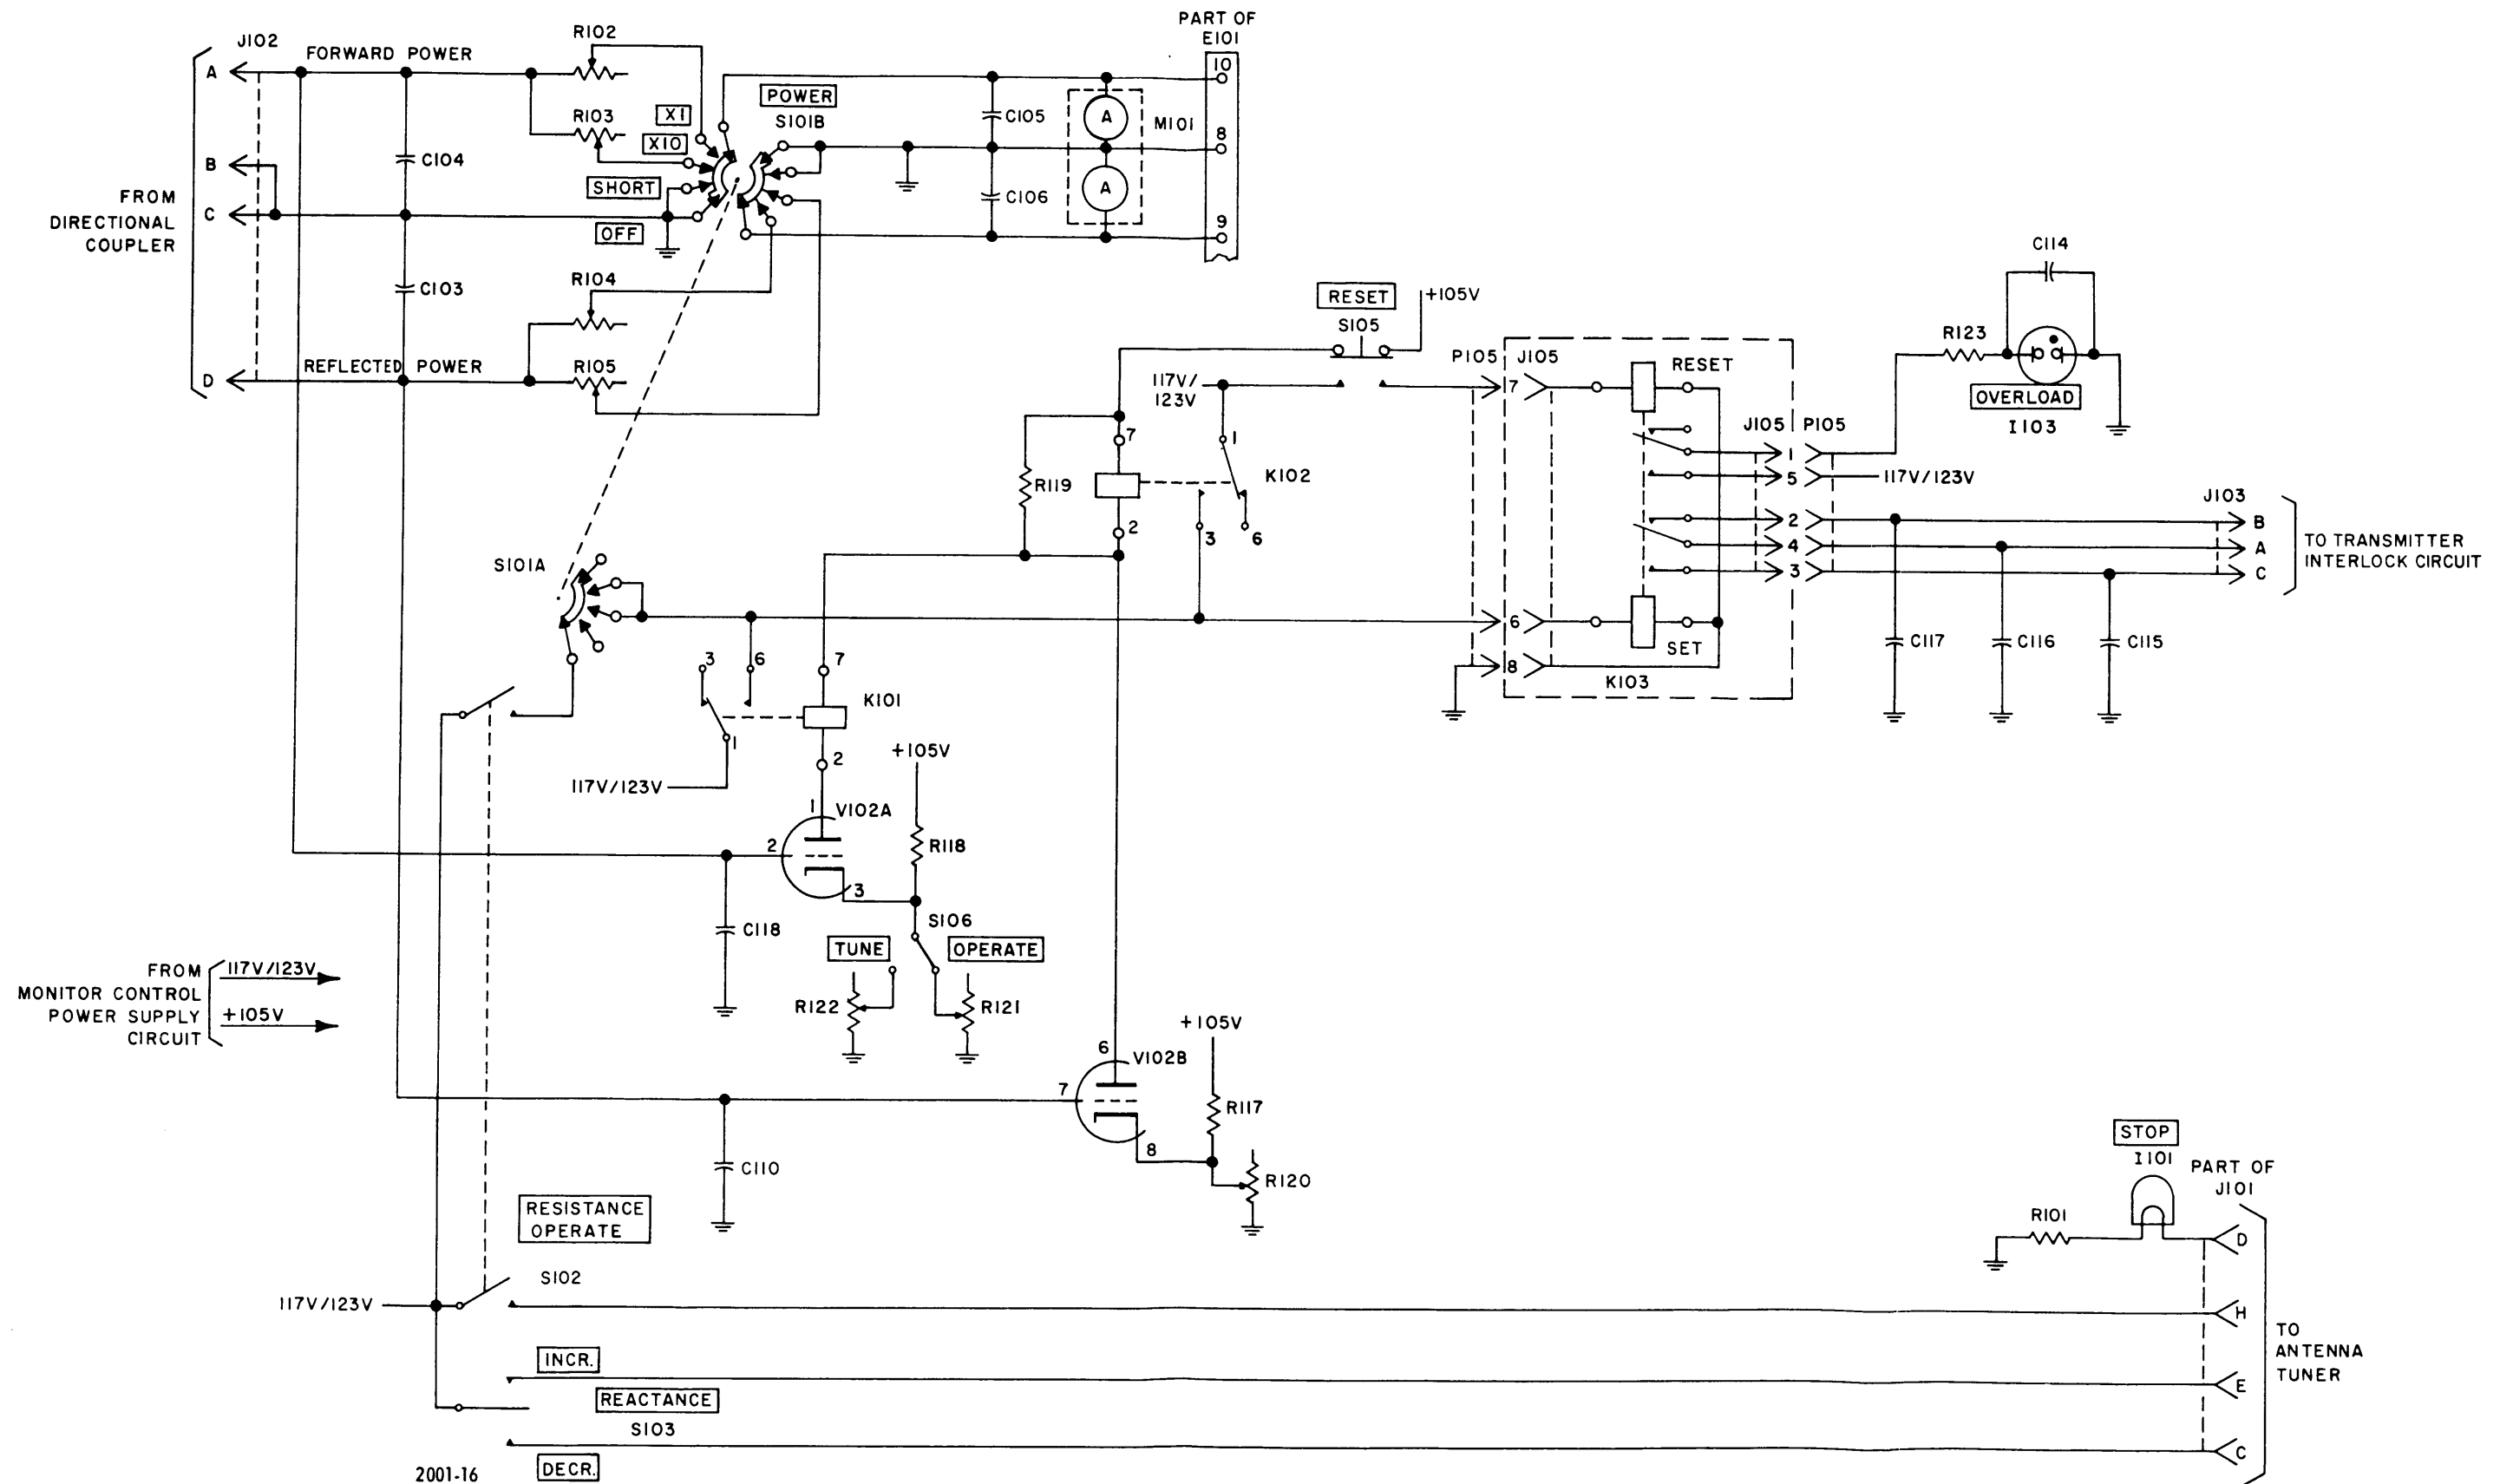

Figure 4-7. Control, Power/VSWR Meter, and Overload Circuit, Simplified Schematic Diagram
c. CONTROL, POWER/VSWR METER, AND OVERLOAD CIRCUIT. - This circuit, Figure 4-7, controls the antenna tuner. Also, the circuit provides overload protection against excessive forward and reflected power. The circuit covers two ranges of transmitter output power: 0 to 100 watts (X1) or 0 to 1000 watts (X10).